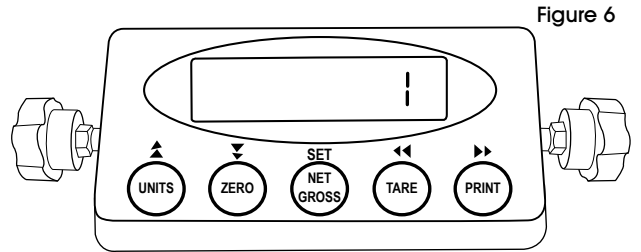

Figure 6
- Set value to '1'. Press NET/GROSS to save. Press UNITS to exit. (See Figure 6)